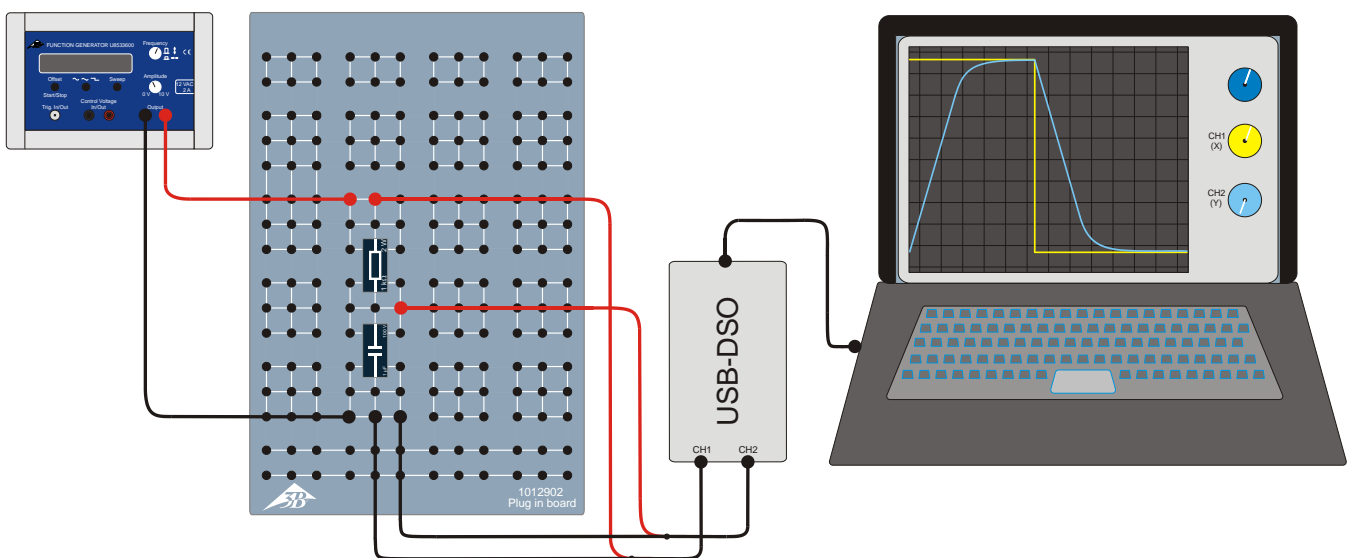

Fig. 2: Sketch of measurement set-up.
- Set up the apparatus for the measurement as shown in Fig. 2.
- Plug a resistor of 1 kΩ and a capacitor of 1 μF into the plug-in board as sketched in Figs. 2 and 3.